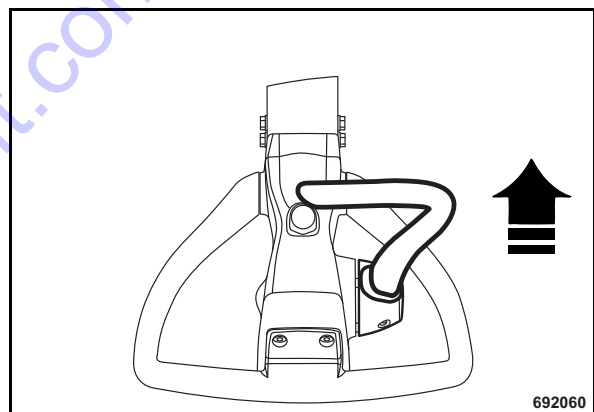

Fig. 79
- Shift the travel lever forward against the stop (Fig. 79).